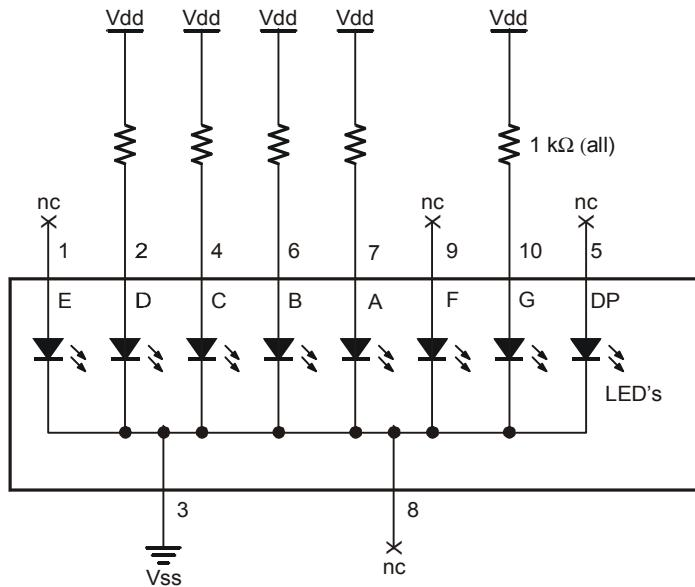
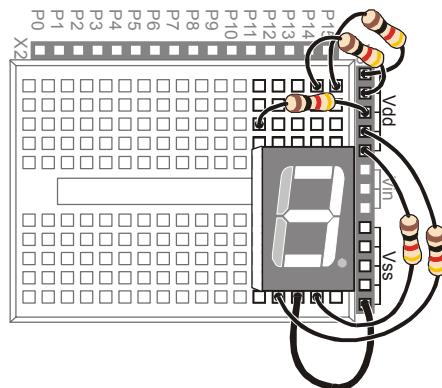

Figure 6-8
Figure 6-9
Figure 6-8 and Figure 6-9 show the digit '3' hardwired into the 7-segment LED display.
- ✓ Build and test the circuit shown in Figure 6-8 and Figure 6-9, and verify that it displays the number three.